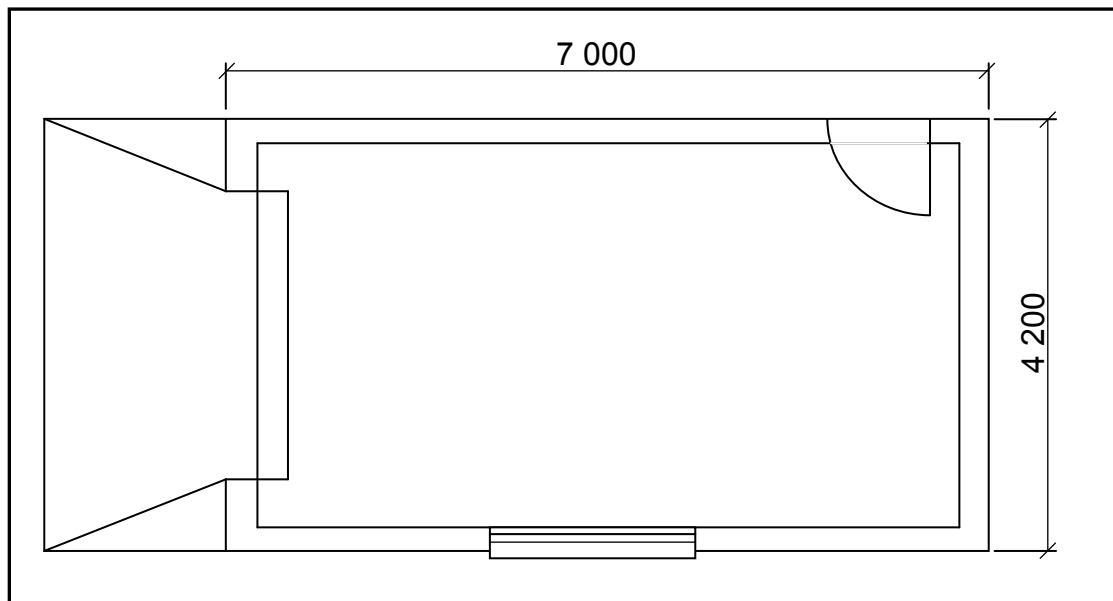

FIGURE 4.3
- 4.3 FIGURE 4.3 below shows the floor plan of a garage with a garage door, a side door and a window.